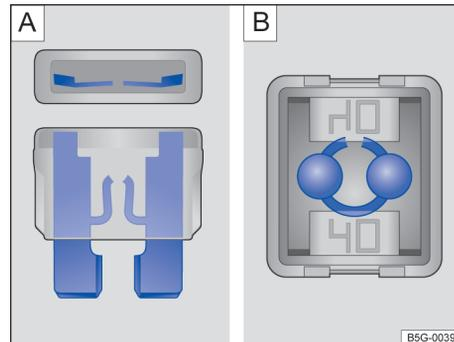

Fig. 158 Blown fuse: **A**: Blade fuse. **B**: JCASE® fuse.
- *For blade fuses (ATO®, MINI®)*: Remove the fuse and shine a flashlight on it. This makes it easier to tell if the fuse has blown. A blown blade fuse has metal strips that have burned through, which you can see through the transparent housing from above and from the side → fig. 158 [A].
- *For cartridge fuses (JCASE®)*: Shine a flashlight on the fuse. This makes it easier to tell if the fuse has blown. A blown cartridge fuse has metal strips that have burned through, which you can see through the transparent housing from above → fig. 158 [B].